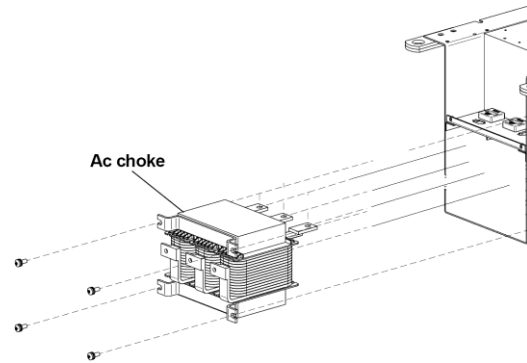

Figure 7.4.18. Disassembly of the AC choke
- 3) Remove the AC choke (see figure 7.4.18).